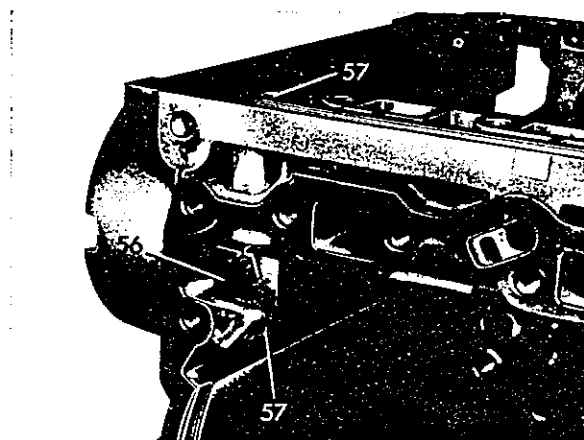

Fig. 24
33 Remove snap ring (55) of the bearing pin of brake band lever B 3 and knock out bearing pin (57) downwards **Fig. 24**